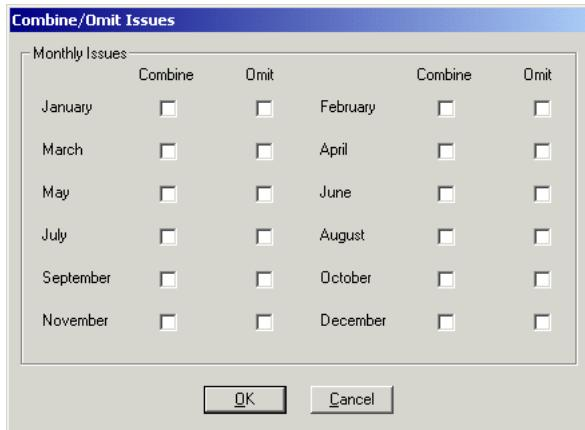

Figure 8-7. The Combine/Omit Issues dialog box
6. Click the **Combine/Omit** button or press **Alt + M** on your keyboard from the **Start Prediction** dialog box to display the **Combine/Omit Issues** dialog box (see Figure 8-7).